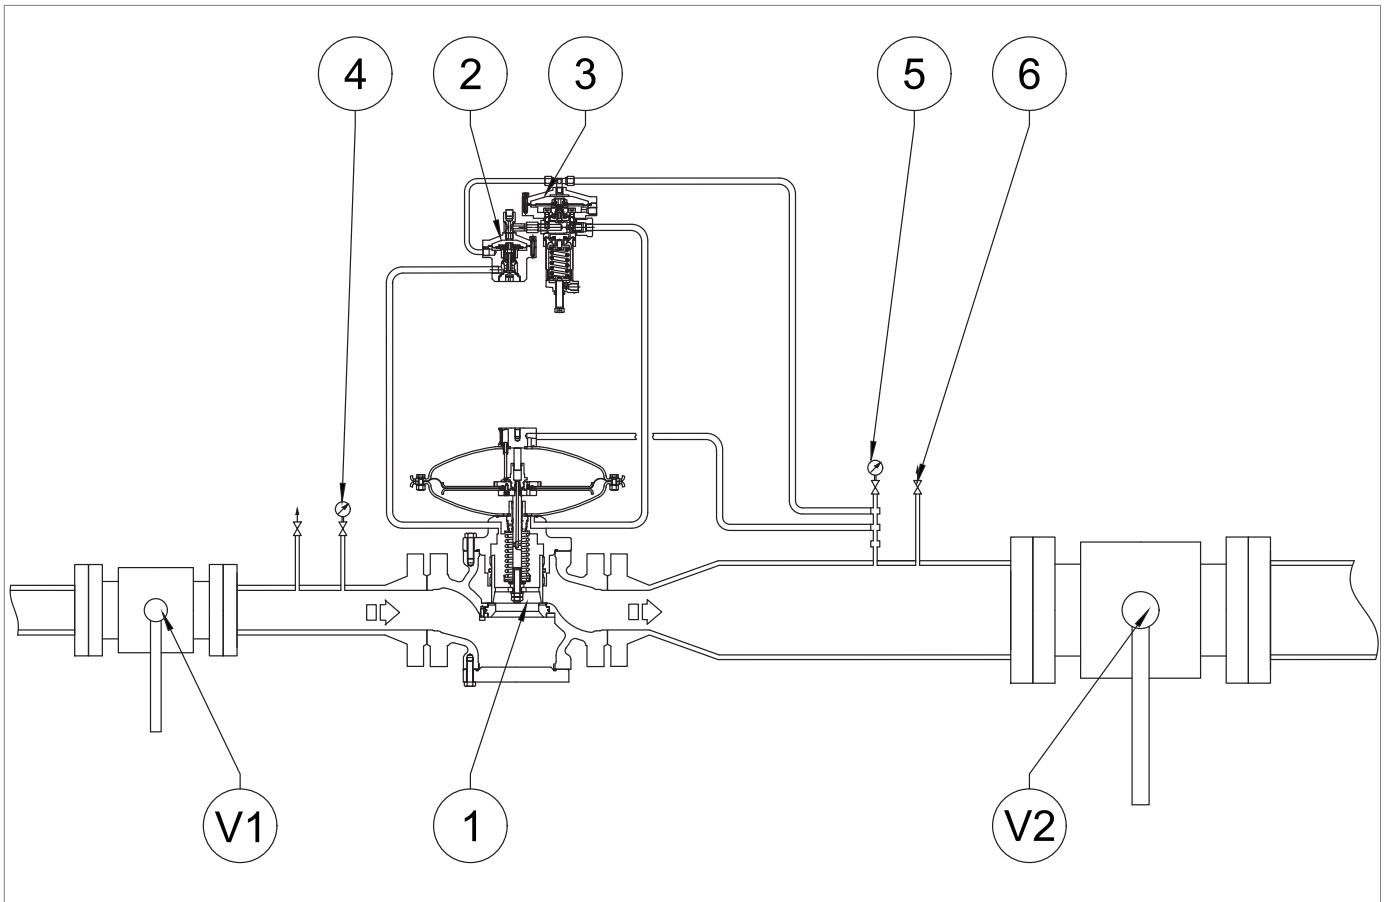

Fig. 8.32. Commissioning the regulator REVAL 182
1	<p>! NOTICE!</p> <p>Check the pressure referring to the pressure gauge (fig. 8.32, ref. 5) downstream of the main regulator.</p> <p>If the slam-shut valve:</p> <ul style="list-style-type: none"> • trips before the expected pressure value: screw in (clockwise) the adjustment ring nut (13) so as to further compress the spring (11); • does not trip at the expected pressure value: unscrew (anti-clockwise) the adjustment ring nut (13) so as to relieve the spring (11).
2	By opening the drain cock (fig.8.32, ref. 6), decrease the pressure in the downstream section to the calibration value of the main regulator.
3	Close the drain cock (fig. 8.32, ref. 6).